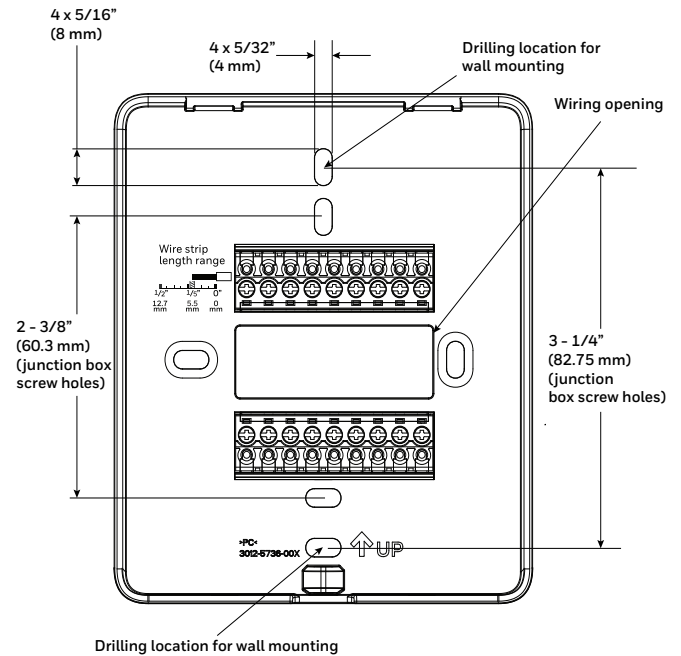

Fig. 8. Wallplate drilling locations
- 3. Pull the wires through the wiring opening of the wallplate and position the wallplate along the junction box to align the mounting holes. For junction box screw holes, refer to Fig. 8.